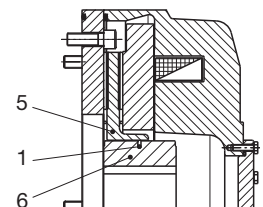

Fig. 5
- Noise damping (O-ring damping between the toothed hub and the rotor), Fig. 5